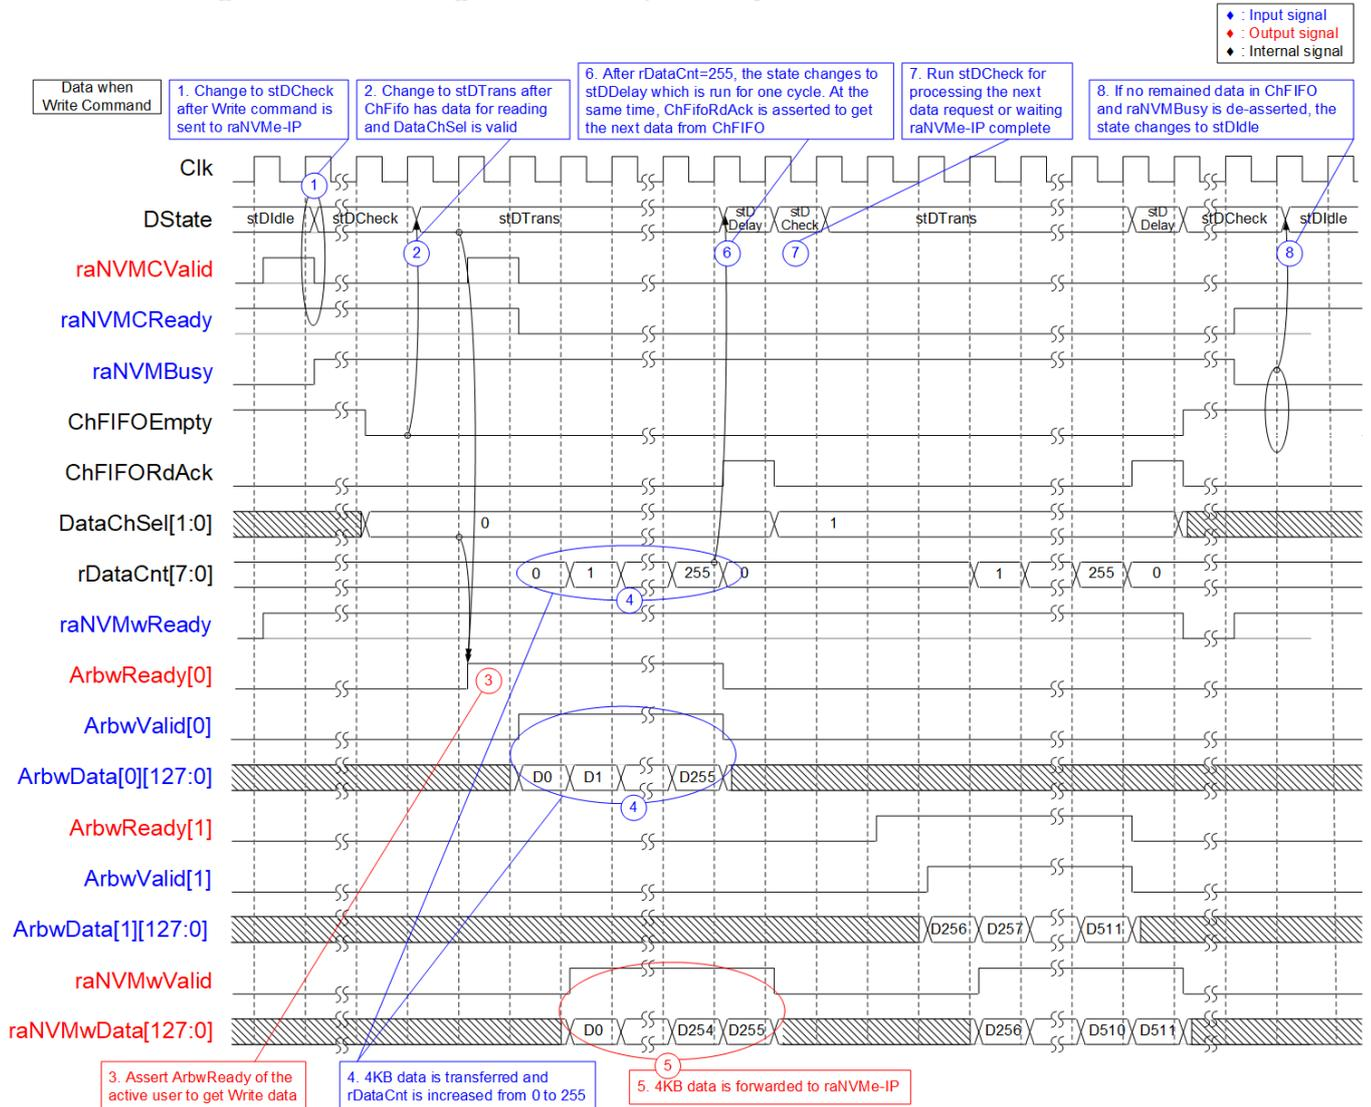
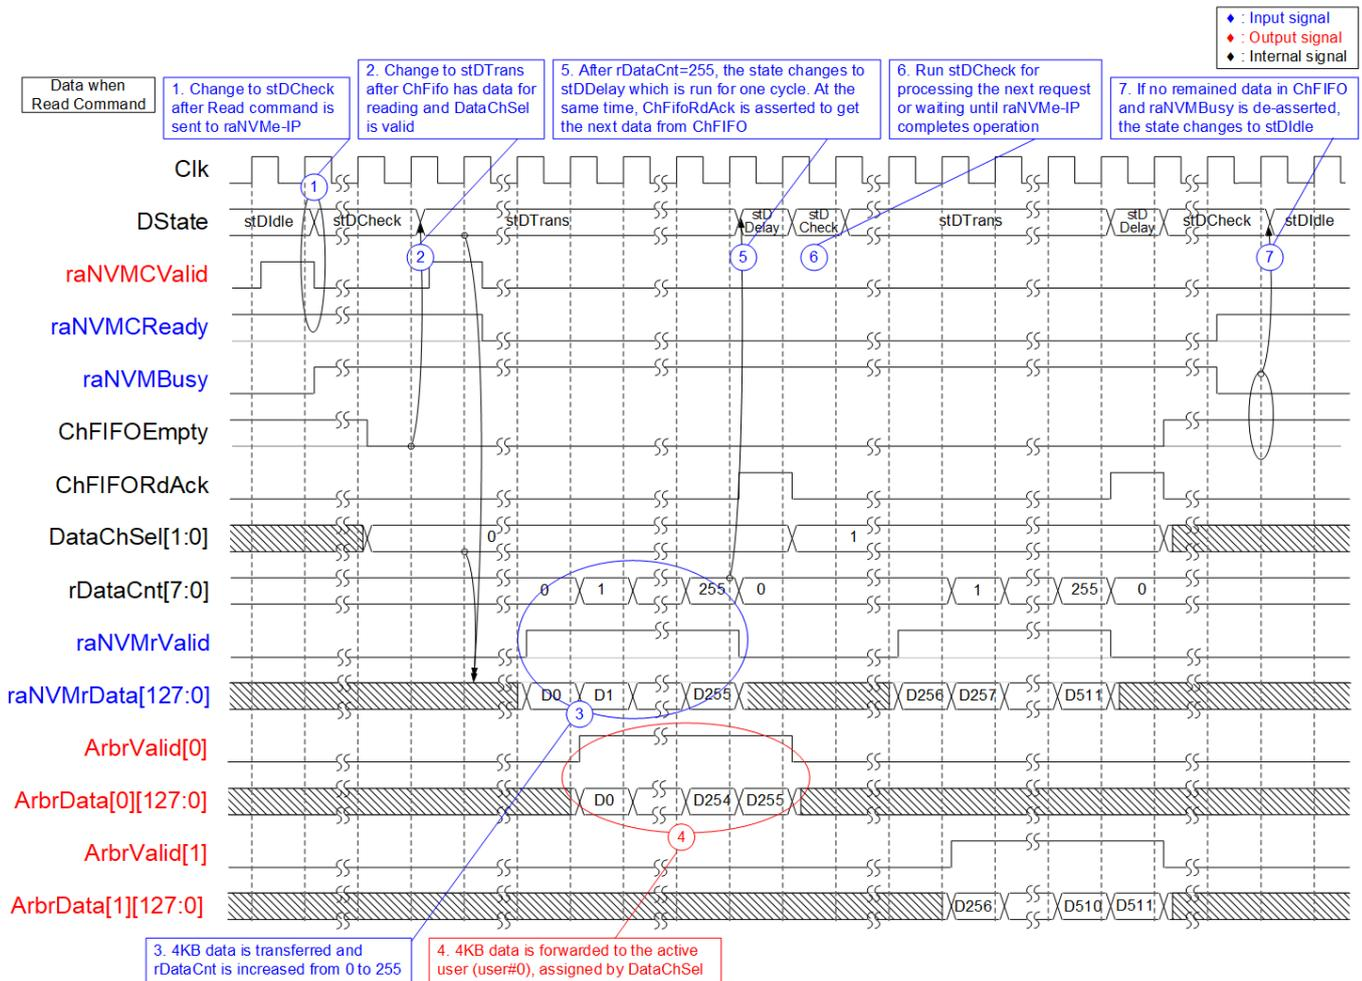

Figure 2-13 Timing diagram of raArbiter's Data I/F when running Write command
Figure 2-14 Timing diagram of raArbiter's Data I/F when running Read command
Timing diagram of Data interface when running Write command and Read command are shown in Figure 2-13 and Figure 2-14 respectively.
- (1) In stDIdle, it waits until Multiple command is sent to raNVMe-IP. In Figure 2-13, when raNVMCValid and raNVMCReady are asserted to '1' with setting raNVMCCmd to be Write command, the state changes to stDCheck to start transferring data from the user to raNVMe-IP. At the same time as sending Write command to raNVMe-IP, Command block writes the active user number to ChFIFO. Assume that user#0 and user#1 send Write command respectively.
- (2) After ChFIFO is written, ChFIFOEmpty is de-asserted to '0' and the read data of ChFIFO, DataChSel, is valid. Next, the state changes to stDTrans.
- (3) ArbWReady of the active channel (user#0), selected by DataChSel, is asserted to get 4KB write data from the active user.
- (4) Next, the active user sends 4KB write data (ArbwData) with asserting ArbWValid for 256 cycles. rDataCnt is increased from 0 to 255 for counting total number of transferred data.
- (5) The write data from user is forwarded to raNVMwData via data multiplexer, controlled by DataChSel. At the same time, raNVMwValid is asserted to '1' to be valid signal of write data.
- (6) After completing 256 data, rDataCnt=255, the state changes to stDDelay which is run for one cycle.
- (7) In stDDelay, ChFIFORdAck is asserted to '1' after completing to use the current read data. The next data from ChFIFO will be available if the data is available in ChFIFO. Next state is stDCheck for checking ChFIFO status. If ChFIFO has remained data (ChFIFOEmpty='0'), repeat step (2) to transfer the data of the next data request. Otherwise, it waits until raNVMe-IP completes the operation and goes to step (8).
- (8) If no remained data in ChFIFO and raNVMBusy is de-asserted to '0', it returns to stDIdle to complete the operation.